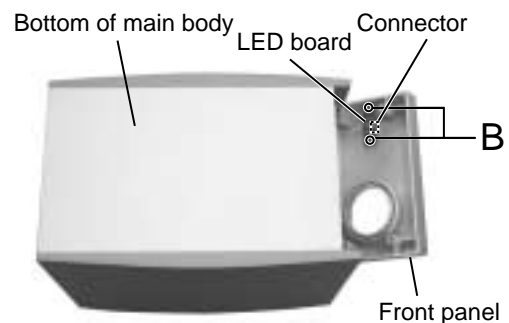

Fig.6
■ Removing the LED board (See Fig.6)